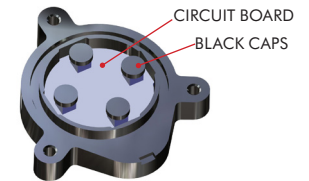

Figure 3
6. Place the circuit board back into its base with circuit board level and small black caps placed over each circuit board button **FIG. 3**